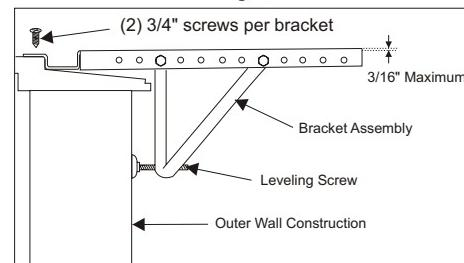
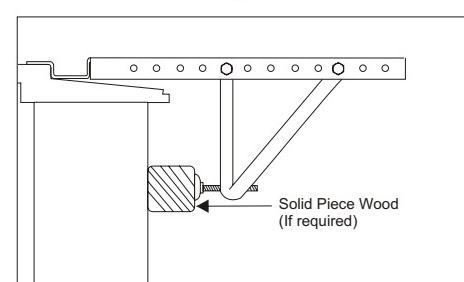

Fig. 7
Fig. 8
Two bolts per bracket. Secure with the (2) 1/4" lock washers and (2) 1/4" nuts. **DO NOT** immediately tighten these bolts as it may be necessary to adjust the depth of the **bracket assembly**, depending on the depth of your window sill. See (Fig. 7). Install the two **leveling screws** into the 90° support brackets. Test the bracket assembly in the window before cabinet installation. If the leveling screws are distanced too far away from the wall to provide stability, it may be necessary for you to fill this area with a solid piece of wood. See (Fig. 8).
**C.** For proper condensation run-off it will be necessary to adjust the angle/pitch of the window brackets. This is accomplished by adjusting the distance of the leveling screw on the outer wall. The maximum angle/pitch should not exceed more than 3/16". See (Fig. 7).
Use a solid piece of wood to provide stability. This will be required when sills are extra deep. See (Fig. 8).
C. Check to make sure that the cabinet is slanted slightly downward on the outside. If necessary, re-adjust support bracket as shown in (Fig. 7).